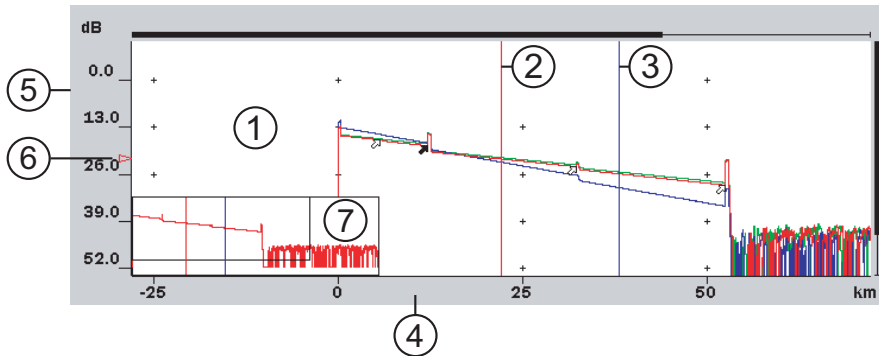

Figure 6-23: Trace Graph – OTDR (Construction) Mode
The Trace Waveform (or Trace) is the downward sloping line going from left to right that connects the data points collected during a test. See item 1 in Figure 6-23.
The cursors (see items 2 and 3 in Figure 6-23 on page 6-57) are the two vertical lines that extend from the top to the bottom of the trace graph. The cursors allow you to extract power and distance information from the trace graph. The active cursor is displayed in red and the inactive cursor is displayed in blue.
The vertical axis scale (see item 5 in Figure 6-23 on page 6-57) is located on the left side of the trace graph and is expressed in dBs, while the horizontal axis scale (see item 4 in Figure 6-23 on page 6-57) is located at the bottom of the trace graph and is expressed in the distance unit as set on the Preferences screen. See “Distance Display Units” on page 6-3 for details.
The dB level indicator (see item 6 in Figure 6-23 on page 6-57) denotes the intersection of the active cursor and the trace level.
The Trace Overview window (see item 7 in Figure 6-23 on page 6-57), located in the lower left corner of the Trace graph, shows a thumbnail view of the current trace. This is helpful in determining the location of an expanded section on the main view. The black rectangle inside the Trace Overview window indicates the section of the trace that is currently displayed in the Trace graph when the trace has been expanded horizontally, vertically.